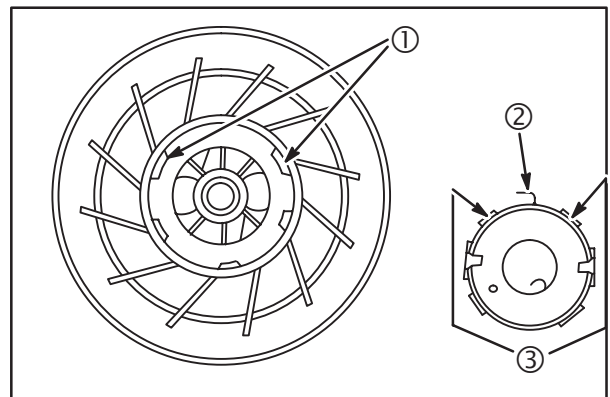

Fig. 69
1. Place spring and cup assembly in pulley with outer end of spring tab (2) between two wide lugs in pulley (1) and spring cup projections (3) next to the two wide lugs, Fig. 69.